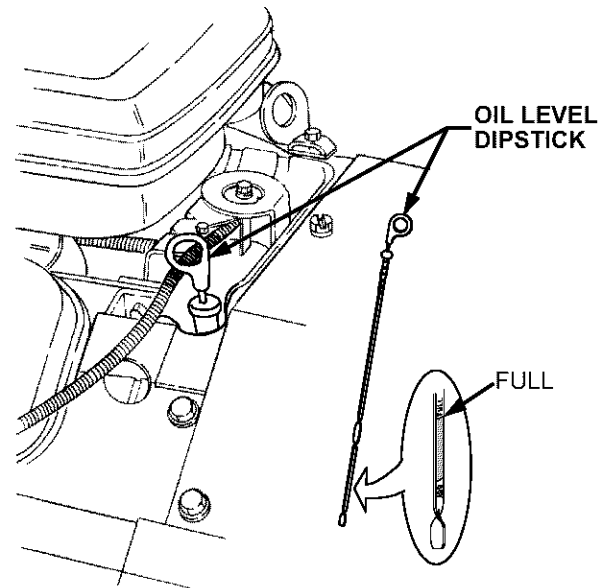
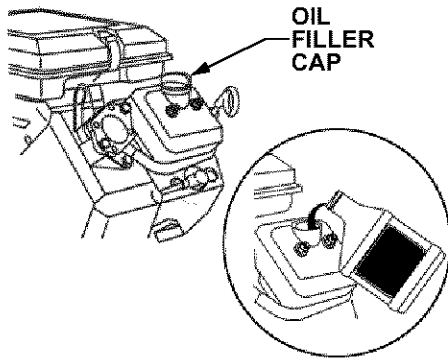

Figure 20
Figure 21
Before each use, the oil level of the engine crankcase should be checked to see that it is filled to the correct level. Close monitoring of the oil level during the first 10 hours of operation of the engine is especially important. Before checking the oil level, clean the area around the oil level dipstick to prevent debris from entering the crankcase. Always keep the oil level up to the "FULL" mark on the dipstick (See Figure 20). When checking the oil level, the engine must be cold, the dipstick must be withdrawn and wiped clean, then pushed fully into the tube before being withdrawn for a true reading.
- Clean the area around the oil filler cap to prevent debris from entering the crankcase. See Figure 21.
- Unscrew the oil filler cap from the right valve cover and **SLOWLY** pour in oil (See Figure 21). Fill the crankcase until the oil level reaches the “FULL” mark on the dipstick (Refer to Figure 20).
3. Remove the oil filler cap from the valve cover and **SLOWLY** pour in oil. The oil capacity is approximately 1-1/2 quarts. Fill the crankcase until the oil level reaches the "FULL" mark on the dipstick (Refer to Figure 20).